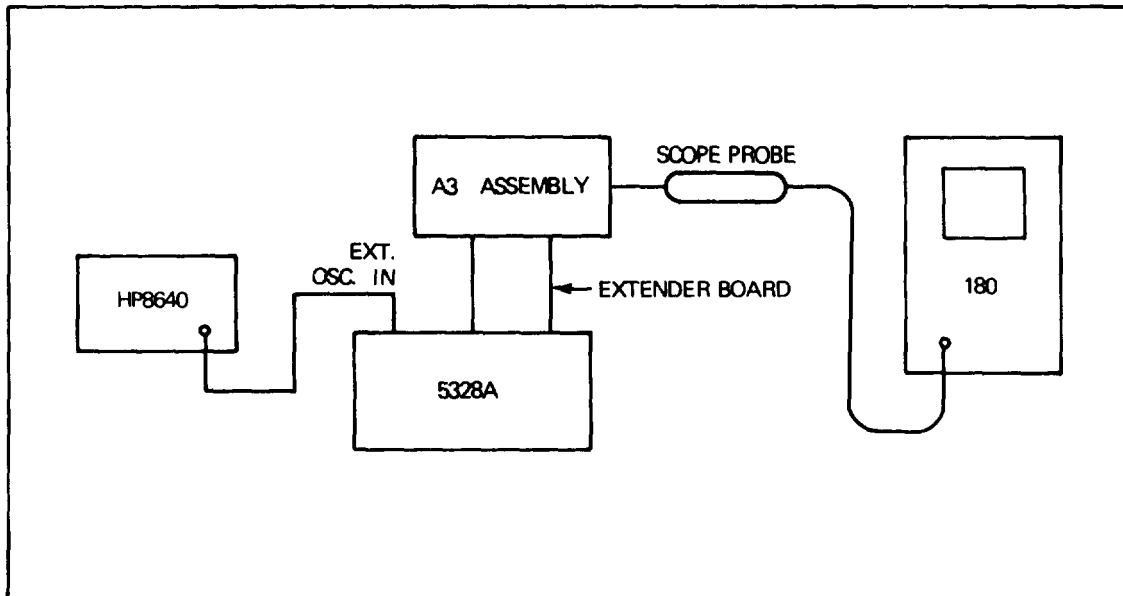

Figure 5-4. Hookup For A3 Oscillator Support Adjustment
1. Connect 5328A, HP 8640, and HP 180 as shown in Figure 5-4.